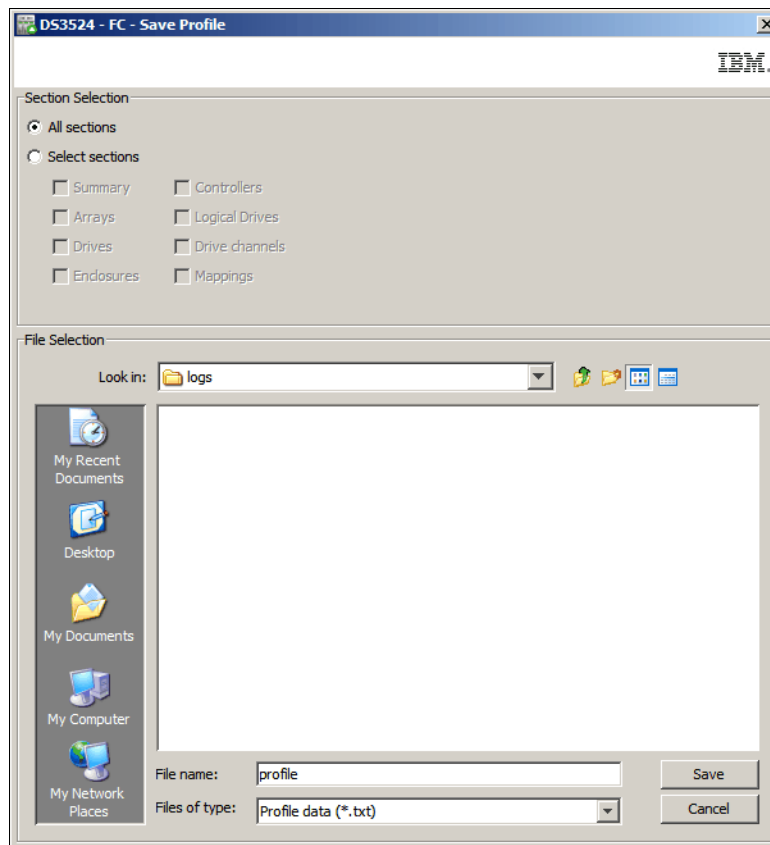

Figure 14-18 Save Profile
- To save the profile, click the **Save As** button. At the top of Figure 14-18, choose which sections of the profile that you want to save. By default, the tab that you were viewing will be selected, and you can select any other tabs that you want. The general rule is to select the **All Sections** option.